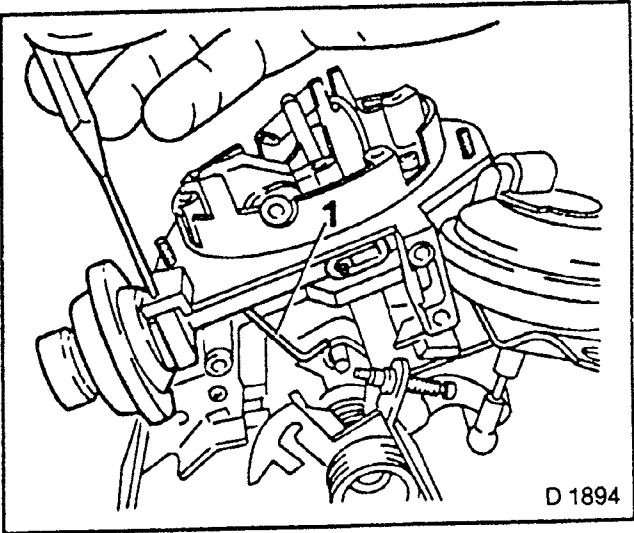

Fig. 216
OBSERVE INSTALLATION POSITION OF CONNECTING ROD (1) — Fig. 216.